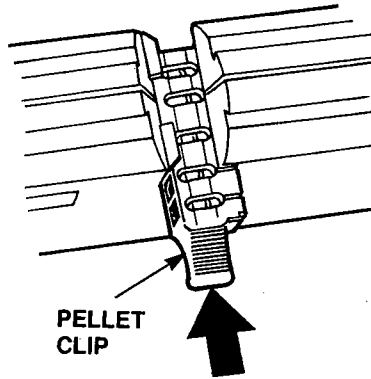

FIG. 9
- Replace the pellet clip lining it up with the barrel chamber, (make sure the pellet clip handle is on the right side of the gun). (Fig. 9)